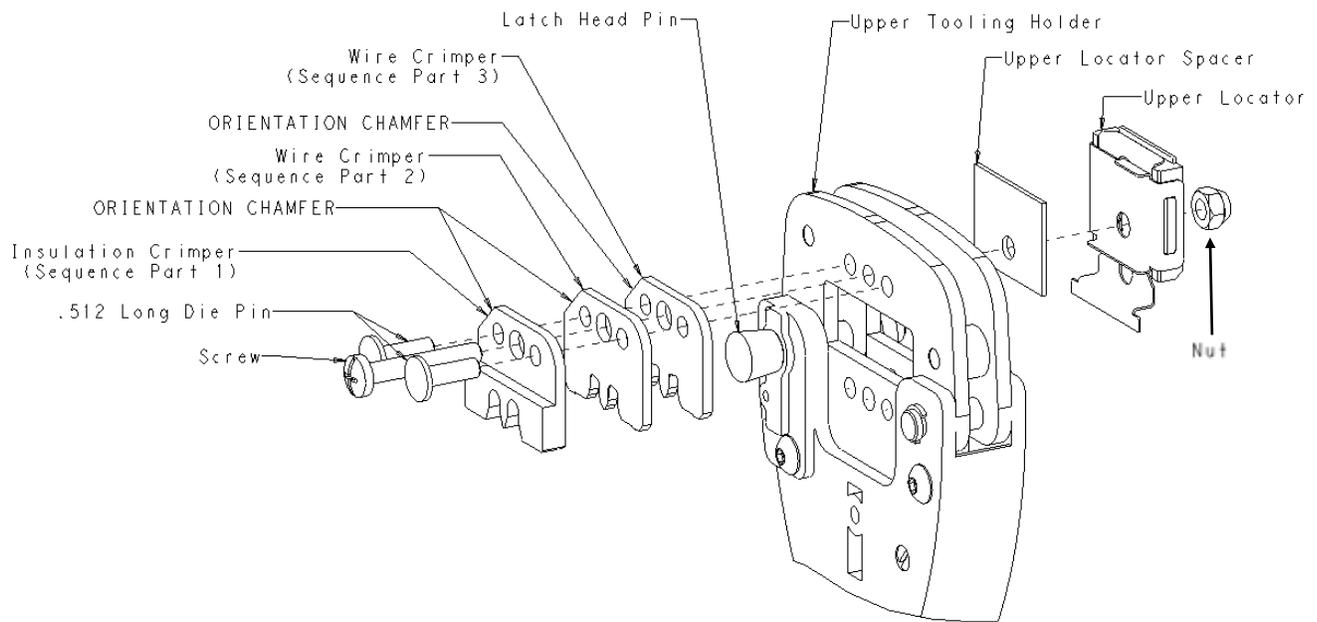

Figure 2
A. Upper Tooling [FIGURE 2]
B. Upper Tooling [FIGURE 2]